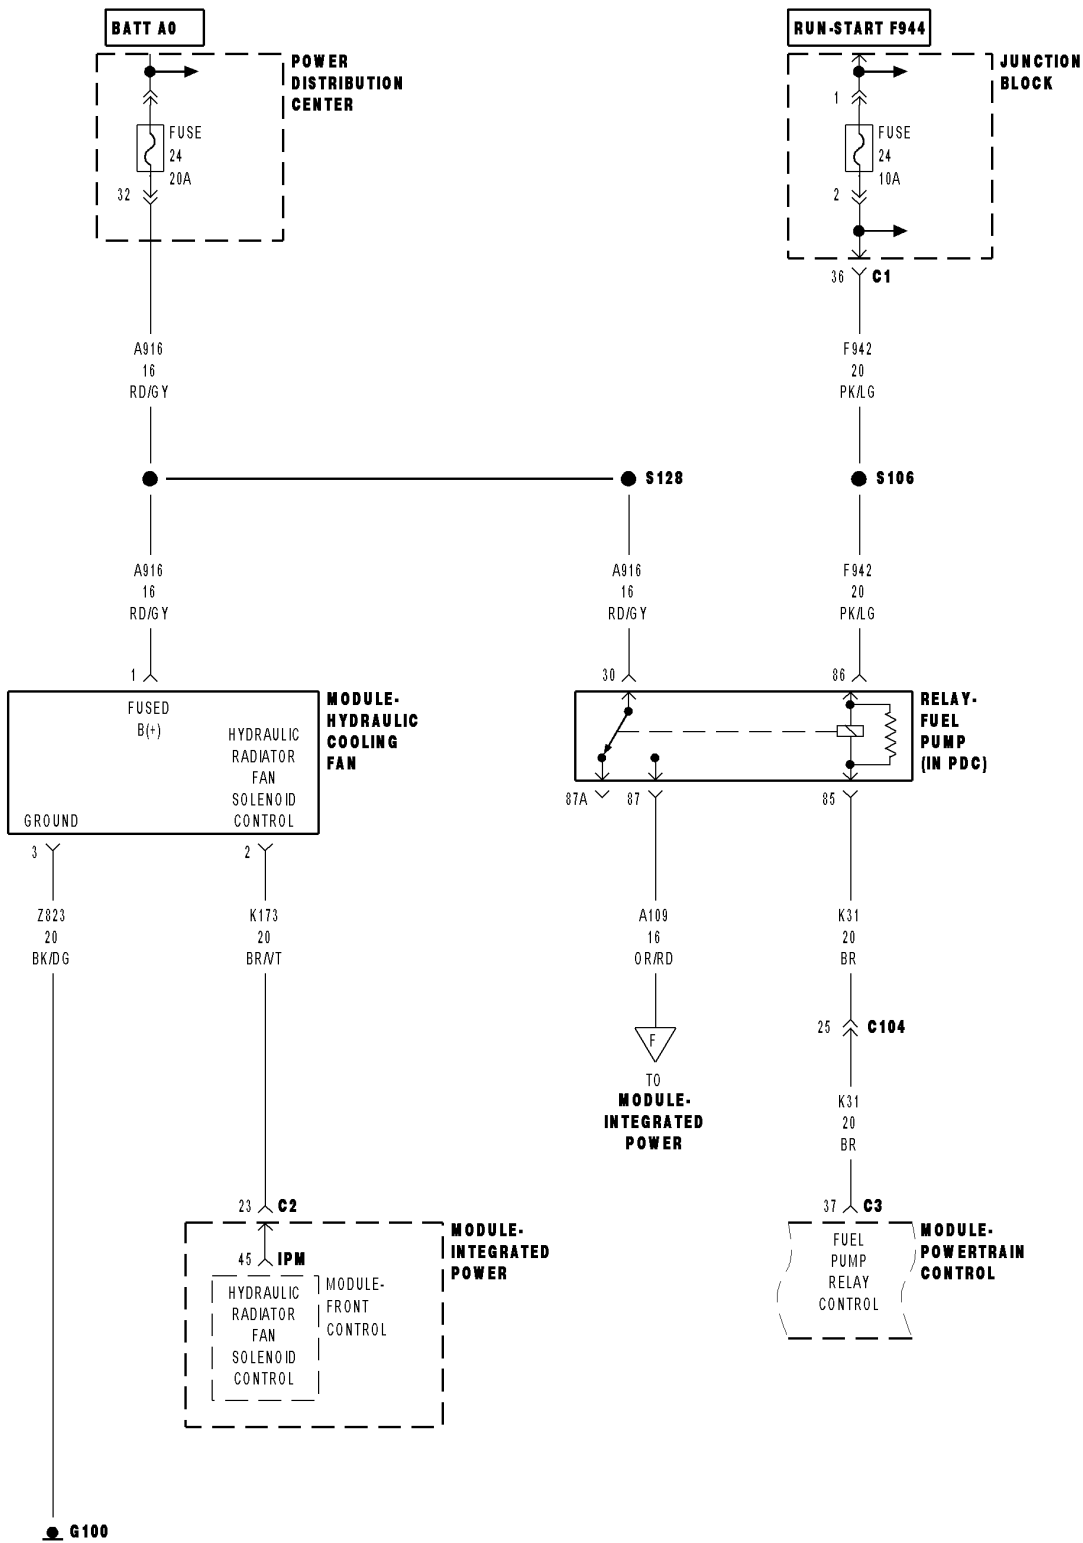

Fig. 3 HYDRAULIC COOLING FAN MODULE CIRCUIT
13. **Electrical testing** - Disconnect the 3 pin connector of the fan motor assembly jumper harness from the vehicle engine compartment wiring harness. Using the connector of the jumper harness for electrical measurements will normally allow easier access than if the connector at the hydraulic motor pressure control valve is used. Measure the resistance between terminal 1 and terminal 2 of the fan motor assembly jumper harness to determine fan motor solenoid resistance. (Fig. 3) - **Is the resistance between 7 and 13 ohms?**
14. Fabricate a 3 wire jumper harness between the vehicle engine compartment wiring harness and the fan motor assembly jumper harness connector. Insert an ammeter in the K173 BR/VT circuit (Fig. 3). Start the engine and set the duty cycle to 100%. - **Is the current draw on circuit K173, BR/VT, between 0.5 and 1.5 amps?**